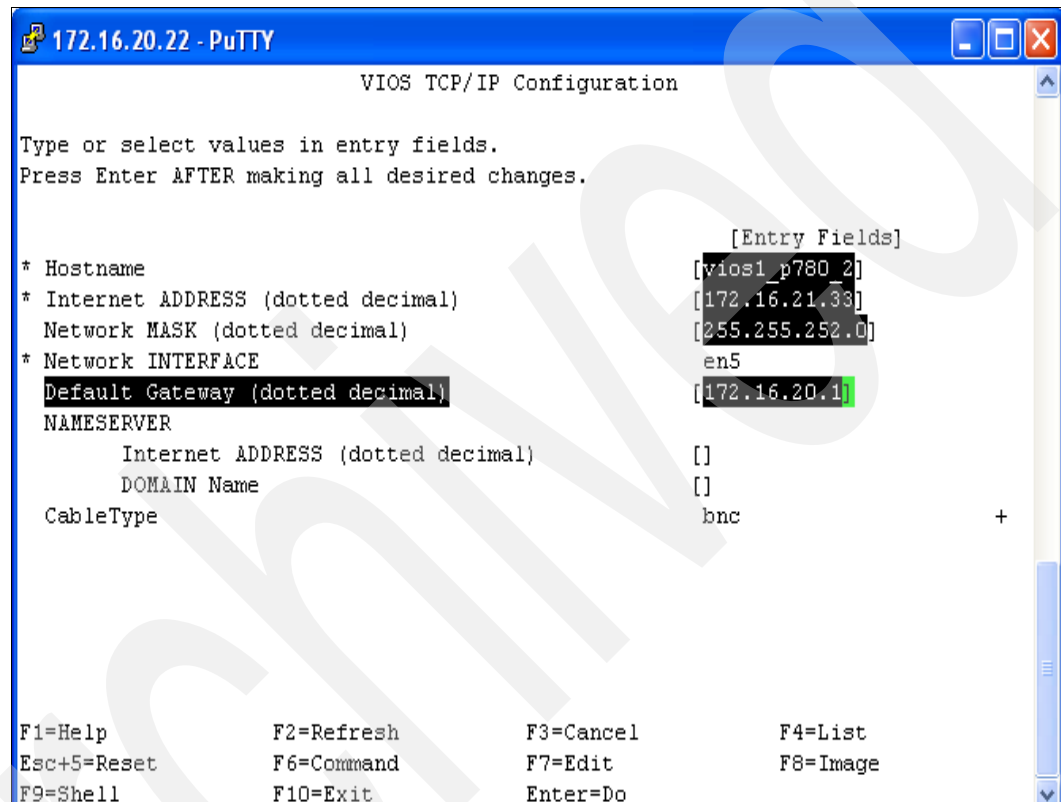

Figure 6-36 SEA IP address configuration using the **cfgassist** menu
5. Configure the IP address for the SEA adapter using the **cfgassist** command, as shown in Figure 6-36. Remember to use a separate IP address for the VIO servers.